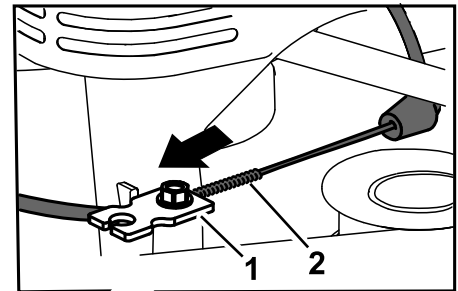

Figure 40
6. Pull the cable jacket to remove slack (Figure 40).